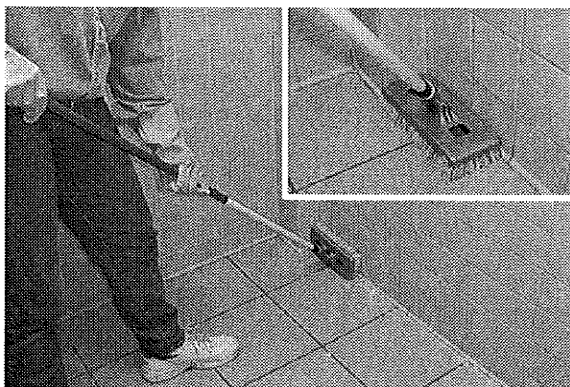

FIG. 15
7. While the cleaning solution is working, use the brush tool to scrub corners, cove base and heavily soiled areas (Figure 15).